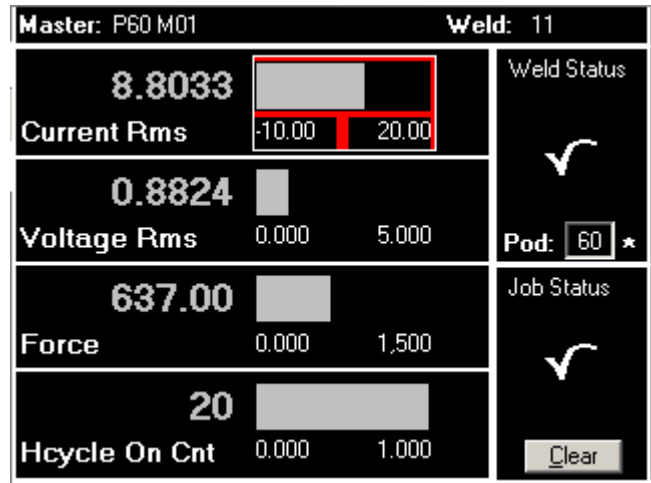

Figure 5-37 Main program screen with new master date/time stamp displayed
2. Make another weld. Notice that master created in the last section is displayed in the top left, indicating that the weld was compared against this master's tolerance limits, as shown in figure 5-37. Ideally this weld should have accepted and a check mark should be displayed in the **Weld Status** box.